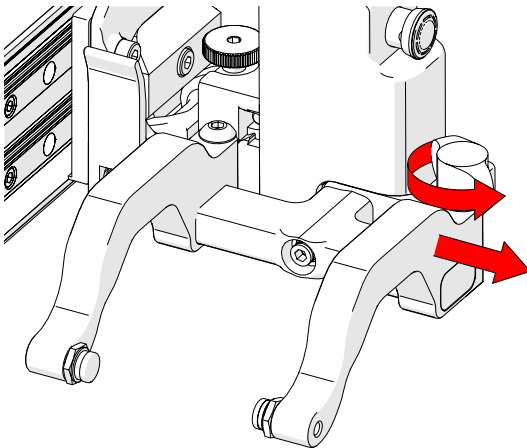

**Fig. 118** - Mount probe holder to carrier
1. Loosen the probe holder adjustment knob (*Fig. 118*) and mount the heavy duty vertical probe holder's dovetail jaw to the carrier.